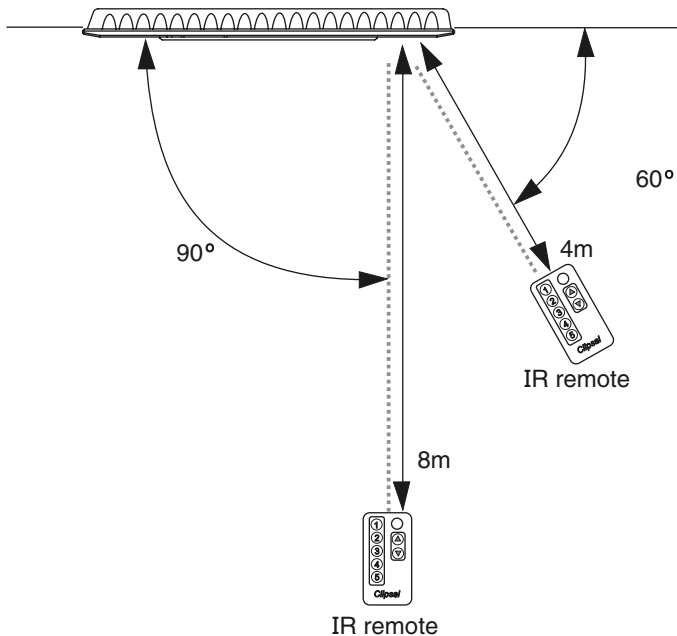

Figure 5. Remote control range
- If you have multiple C-Touch units (Colour or Monochrome), you can use the same remote control with each of them. The remote has a range of approximately eight metres from the IR receiver at 90° to the C-Touch Colour, or four metres at 60° degrees. This is illustrated in Figure 5.